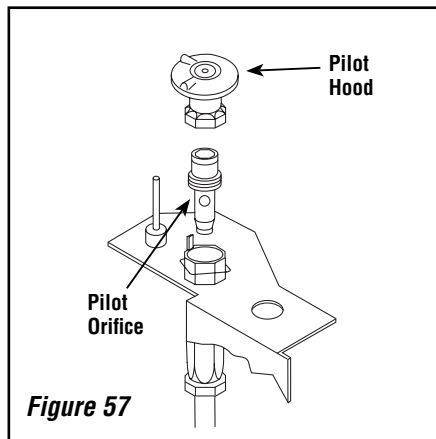

Figure 57
Step 11. Refer to **Figure 57** and remove the pilot hood assembly to access the hexed pilot orifice. Remove and replace the orifice with the one provided with the kit.